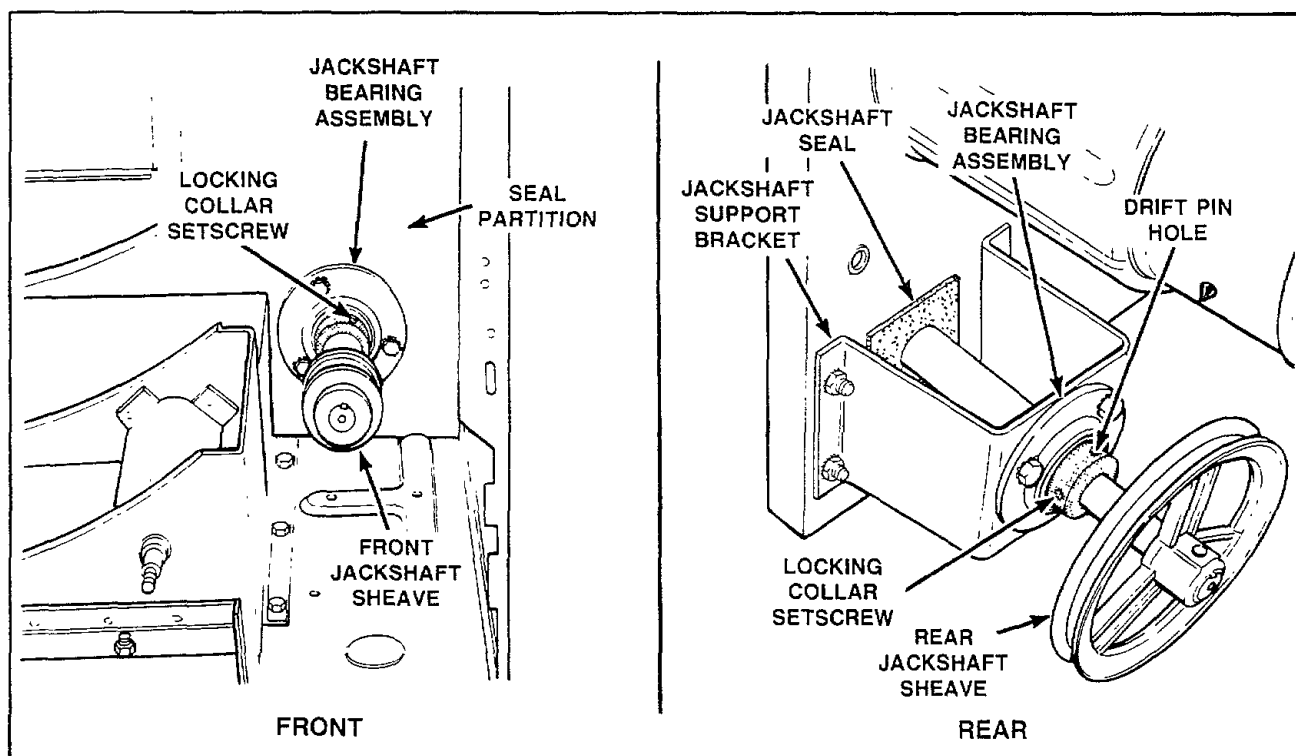

Figure 34
1. Remove rear jackshaft sheave, *Figure 34*.
2. Loosen rear bearing locking collar setscrew several turns, *Figure 34*.
5. Remove bolts holding front bearing assembly to seal partition, *Figure 34*.
12. Remove rear bearing assembly from jackshaft support bracket, *Figure 34*.
13. Replace jackshaft seal if worn or damaged, *Figure 34*.
1. Remove front jackshaft sheave, *Figure 34*.
2. Loosen front bearing collar setscrew several turns, *Figure 34*.
5. Remove bolts holding rear bearing assembly to jackshaft support bracket, *Figure 34*.
12. Remove front bearing assembly from seal partition, *Figure 34*.
- a. Install front and rear bearing flange assemblies to their mounting surfaces with locking collars facing outward for each bearing, *Figure 34*.
- h. Tighten front bearing flange to the seal partition, *Figure 34*.